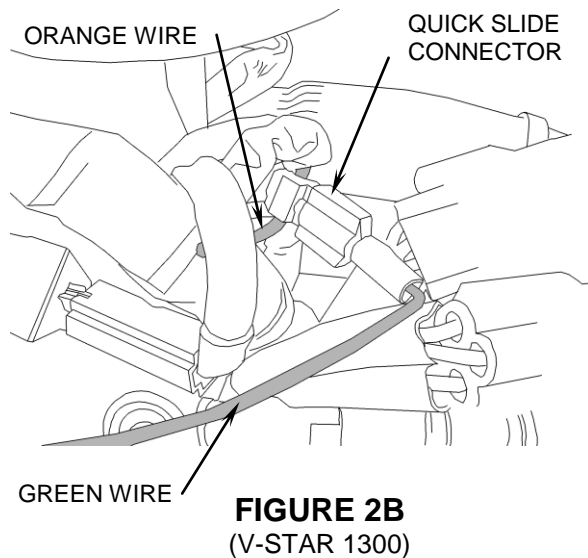

FIGURE 2B
6. **For V-Star 1300:** Remove the seat. Remove 2 bolts from the back of the gas tank. Lift the back of the gas tank up and locate the ORANGE wire at the coil on the left side of the frame. (See Figure 2B.)